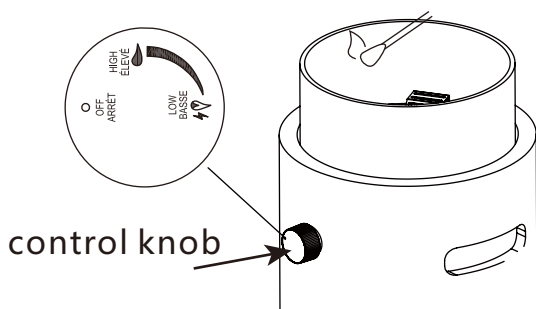

Figure 8
7. Use a match or a lighter to light the fire bowl (see Figure 8). Continue to press the control knob for 15 seconds before it is released.